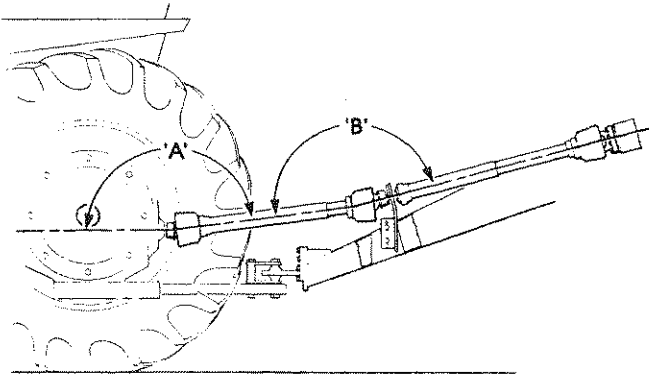
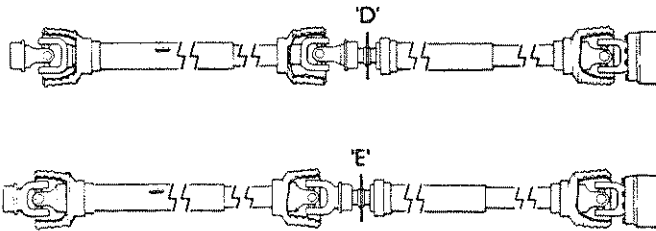

Fig. 4
Fig. 5
7. The drivelines must be adjusted so the angle of the tractor u-joint, 'A' Fig. 4, and the angle of the center u-joint, 'B' Fig. 4, are equal. To achieve equal angles at 'A' and 'B', adjust the vertical position of the carrier bearing support bracket. If, after repositioning the support bracket, the angles are not equal, select the bracket position that allows the closest angle setting. The objective is, to achieve as closely as possible, equal angles as described above while keeping the angle of the u-joint at the slip clutch to a minimum.
8. If equal angles are achieved at 'A' and 'B', (Fig. 4), either driveline phasing, (alignment of u-joint yokes), illustrated in Fig. 5 is acceptable. If the angles cannot be made equal, then reposition the driveline yokes as shown. If the angle at 'B' is greater than at 'A', phase the driveline yokes as shown in Fig. 5, (E). If angle at 'A' is greater than the angle at 'B', phase the yokes as shown in Fig. 5, (D).